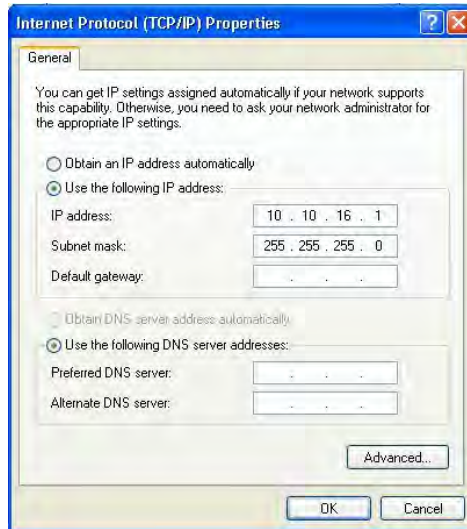

Figure 1-37. PARS_MNS NET Internet Protocol Properties Window
10. Insert the Drive Duplicator's IP address **10.10.16.1** (Figure 1-37).